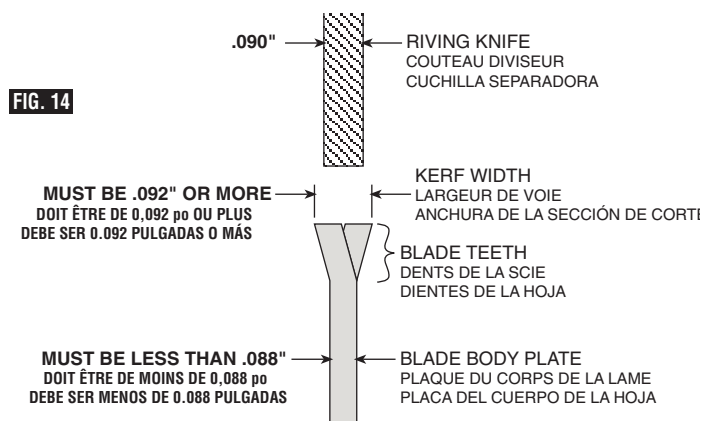
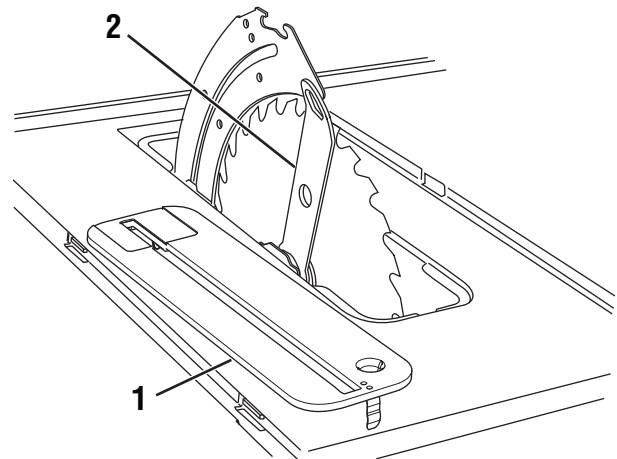

FIG. 15
FIG. 16
1. Turn elevation wheel clockwise until the blade is up as high as it will go, remove table insert **1** using finger hole (Fig. 15).
2. Insert the wrench **2** next to the blade onto the arbor shaft (Fig. 15). Slowly rotate the blade by hand until the wrench fully engages on the two flats on the arbor shaft. While holding the first wrench, loosen the arbor nut **3** counterclockwise using the other arbor wrench **4** (Fig. 16). Set wrench aside and continue to loosen arbor nut **3** by hand and remove arbor nut **3** and washer **5**. Blade may now be removed or installed by sliding on or off arbor shaft **6**.
4. Assemble outer washer **5**, arbor nut **3** as shown in figure 17. While holding arbor shaft with wrench **2** securely tighten arbor nut **3** clockwise with the wrench **4** (Fig. 16).